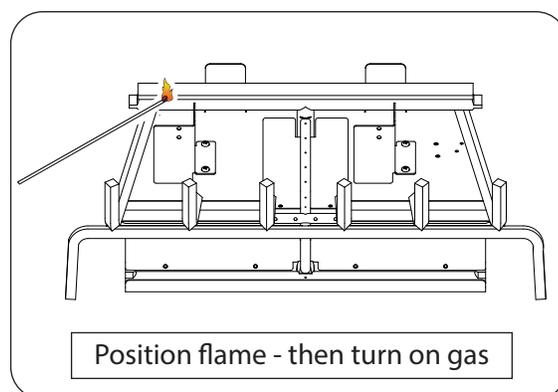

Fig. 15-1
3. Light a long-stem match or a long-necked butane lighter, and place the flame against the center of the top burner (Fig. 15-1).